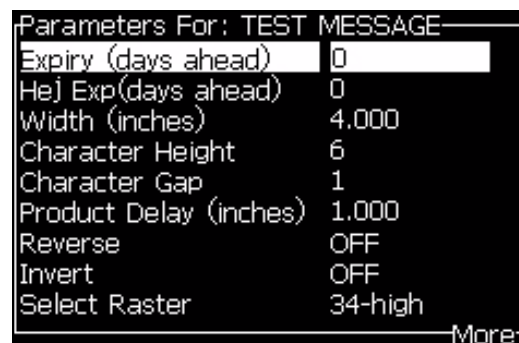

Figure 5-17: Message Parameters Dialog Box
- Under the *Messages* menu, select the Message Parameters (Figure 5-17 on page 5-27) to edit the values.